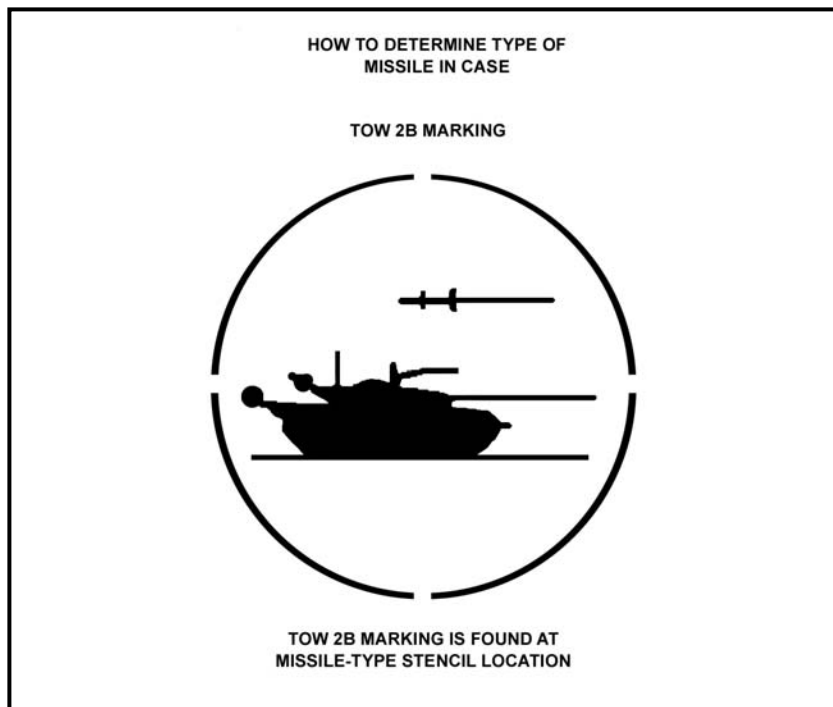

Figure 1-4. TOW 2B marking.
b. The TOW 2B missile is unique because it is an FOSSD missile. It is marked with a decal as shown in Figure 1-4.